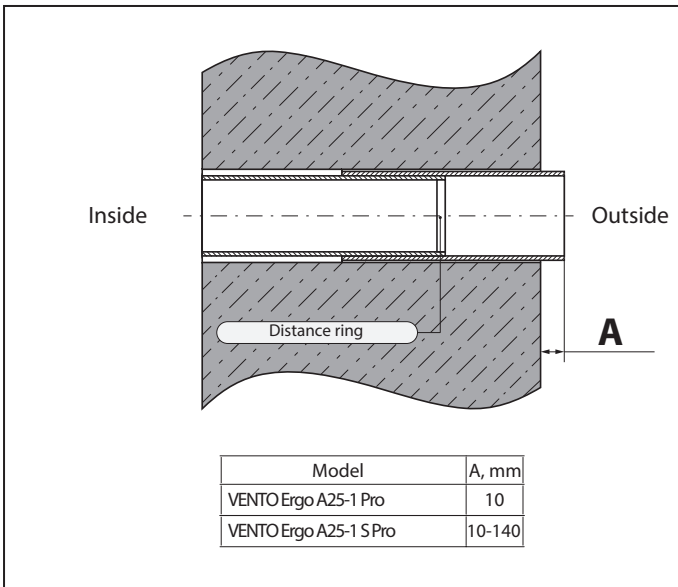

Fig. 8.
2. Install the telescopic air duct in the wall. The protruding telescopic air duct on outer wall side must be equal to the distance A, fig. 8: